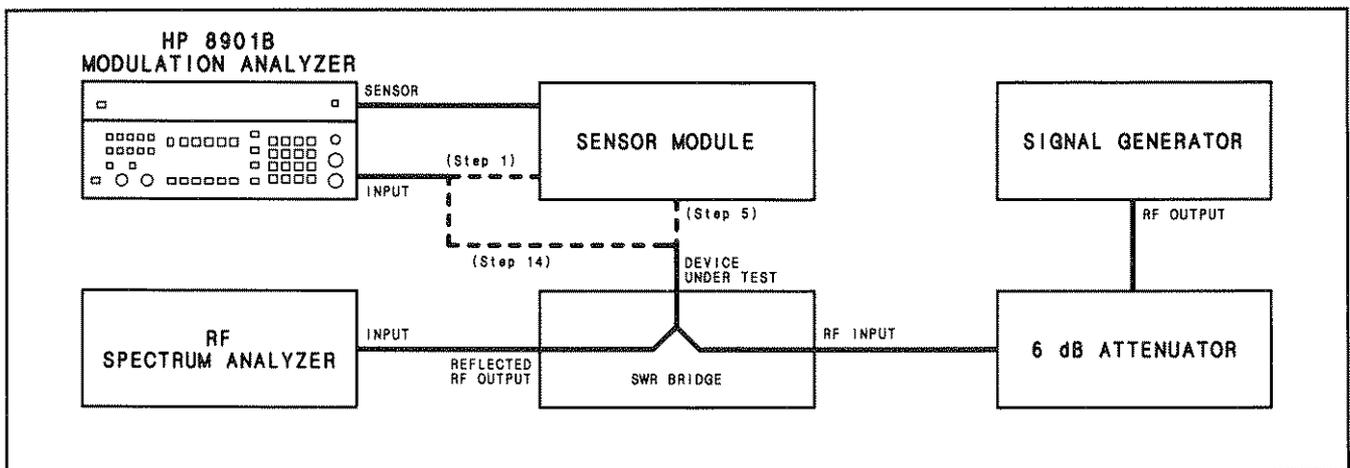

Figure 4-7. SWR Performance Test Setup
1. Connect the equipment as shown in Figure 4-7. Connect the 6 dB attenuator directly to the RF input of the SWR bridge. Do not connect anything to the device-under-test input of the SWR bridge at this time.
5. On the Modulation Analyzer, press the blue key then press INSTR PRESET (the AUTOMATIC OPERATION key) to preset the instrument. Press RF POWER. Connect the sensor module to the SWR bridge. (See Figure 4-7.)